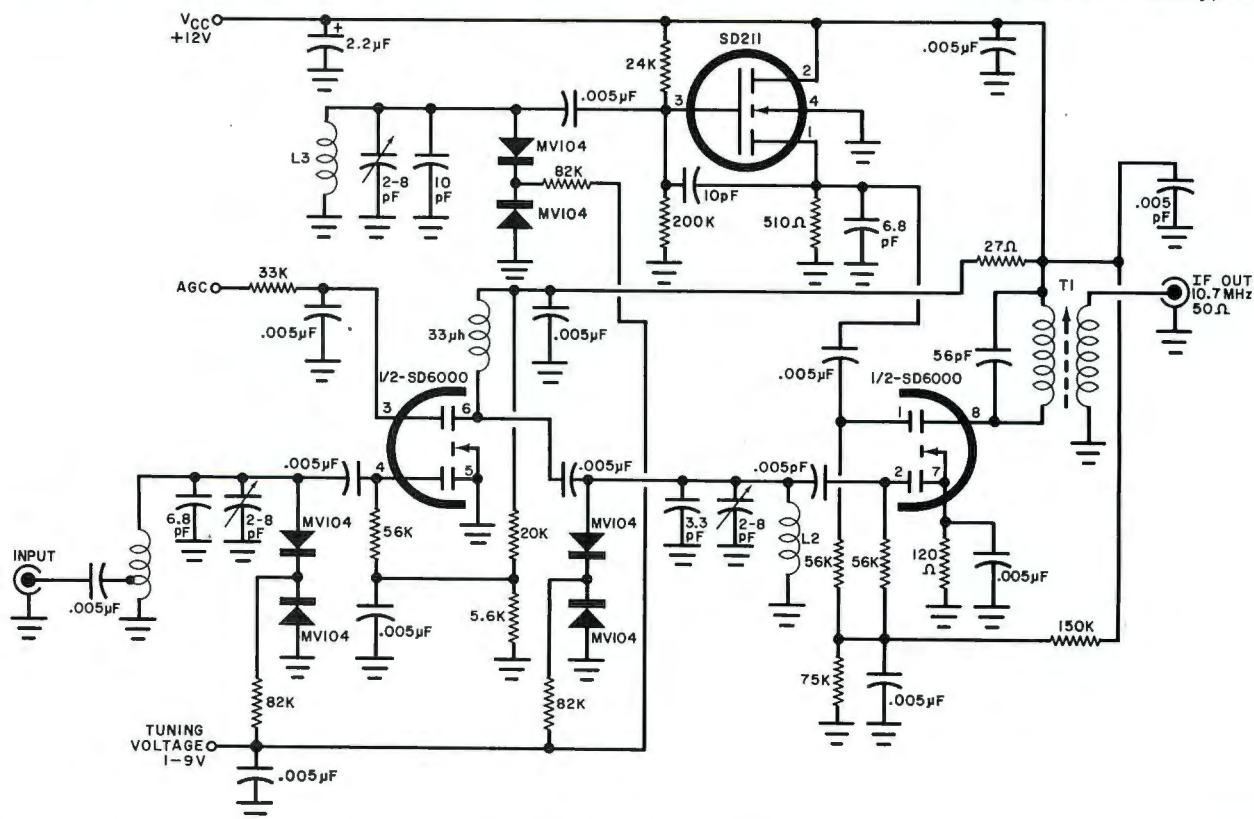

Fig. 1. A voltage-tuned FM broadcast-band front end using discrete devices.
**I**N CASE you are wondering, that word "DANDY" in the title is my own acronym for Discretes Are Not Dead Yet. Although many of today's experimenter and hobbyist projects use integrated circuits, there are hundreds, if not thousands, of exciting and interesting circuits that still use discrete devices (i.e. individual diodes, transistors, and other semiconductor components). There are, in fact, a number of serious experimenters who actually *prefer* to work with discrete devices, feeling that such designs offer more of a challenge to their skills than those using IC's. As one reader expressed it, "I feel I'm *really* assembling a circuit when I work with discretes. Using IC's, except in fairly complex projects, is much like stringing a bunch of black boxes together." Thus, the circuit illustrated in Fig. 1 should provide an interesting (and useful) challenge. It is a voltage-tuned FM broadcast band front end for use with a conventional 10.7-MHz i-f strip. It is also an excellent example of a design using discrete devices. From an engineering applications note from Signetics Corporation (811 East Arques Ave., Sunnyvale, CA 94086), the tuner features a pair of DMOS field-effect transistors and several Varactor diodes. According to the notes, the prototype had a measured sensitivity of better than 1.5  $\mu$ V for 30-dB quiet-